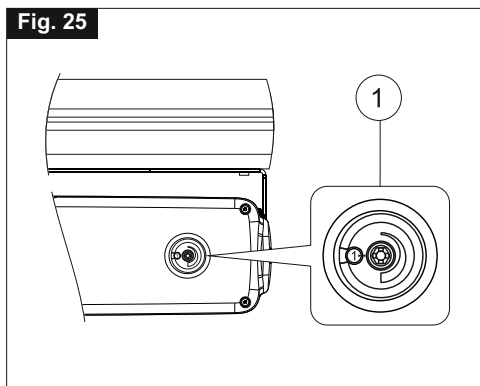

Fig. 26
- 2) **Fig. 26-** With a pencil draw the centre line "Y" of the window frame;